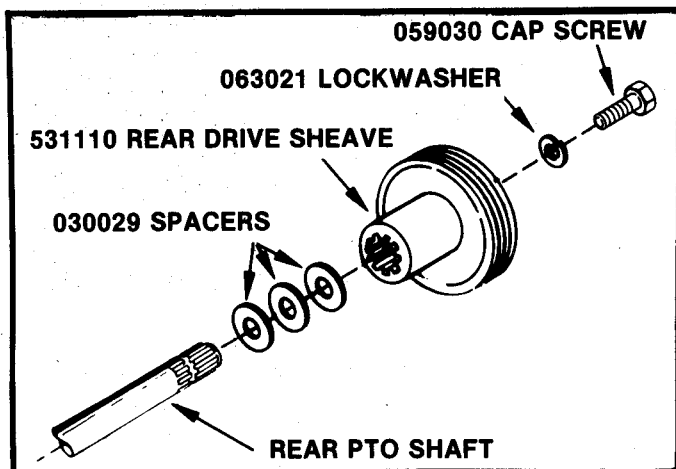

FIGURE 6
7. Disengage tiller Clutch Lever. Install belts and Rear PTO drive sheave on Rear PTO shaft using the appropriate number of Spacers (30029) to obtain belt alignment. See Figures 6 and 7.